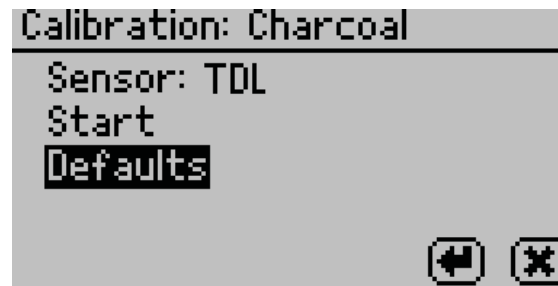

Figure 17 Default options
6. Select Defaults (Figure 17).